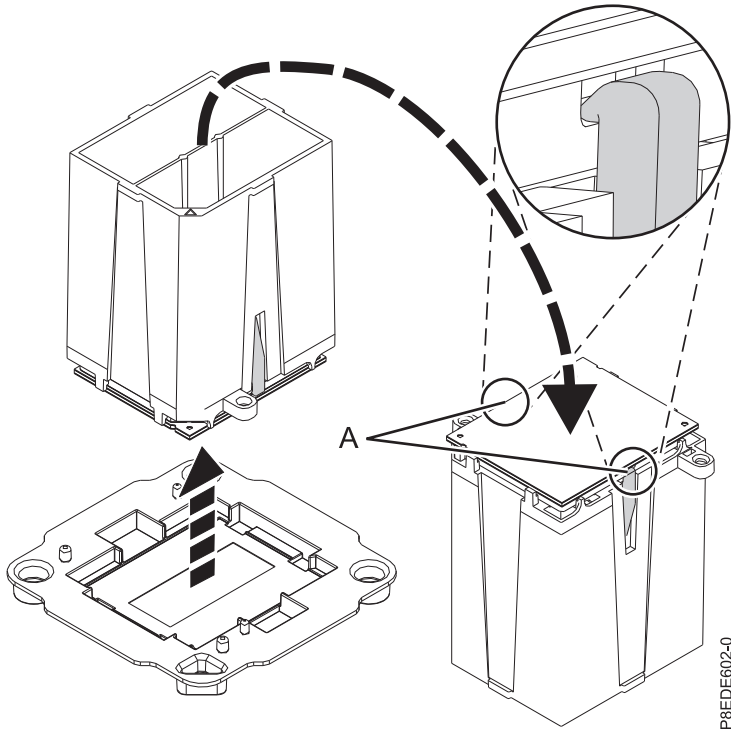

Figure 14. Making sure that the system processor module is securely locked in tool
5. Grasp the sides of the tool and system processor module and carefully lift it slightly out of the system processor module tray. Then, turn it over so that the system processor module side is up. Ensure that both tool jaws (A) are firmly grabbing the system processor module, as shown in Figure 14 on page 16.